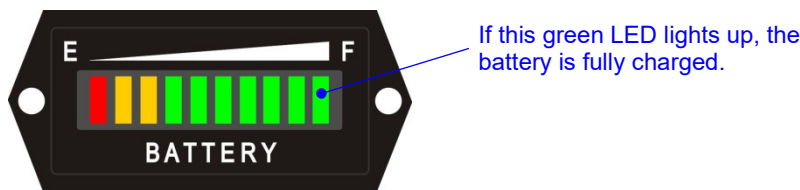

Fig. 5: Charge indicator
The charge level of the battery is monitored by a charge indicator according to figure 5. Light-emitting diodes (LED) in the signal colours green, yellow and red indicate the current charge level after the counterweight balancer has been switched on.
- ⇒ visual inspection of the battery's charge level shown on the charge indicator (s. fig. 5).